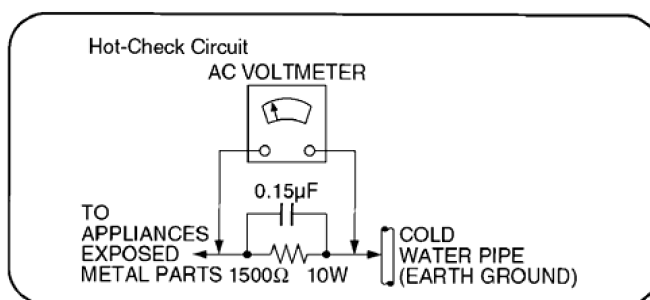

Figure 5.1
5.1.2. Leakage Current Hot Check (See Figure 5.1)